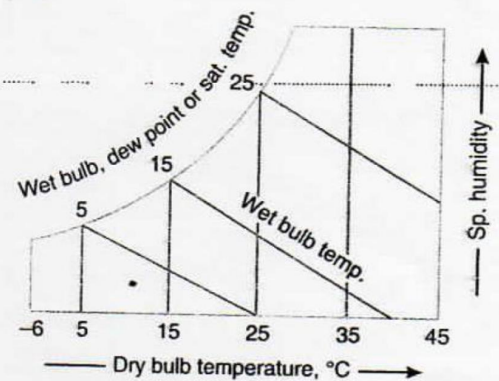

Fig.10 Wet bulb temperature lines.
4. **Wet bulb temperature lines.** The wet bulb temperature lines are inclined straight lines and non-uniformly spaced as shown in Fig.10. At any point on the saturation curve, the dry bulb and wet bulb temperatures are equal.